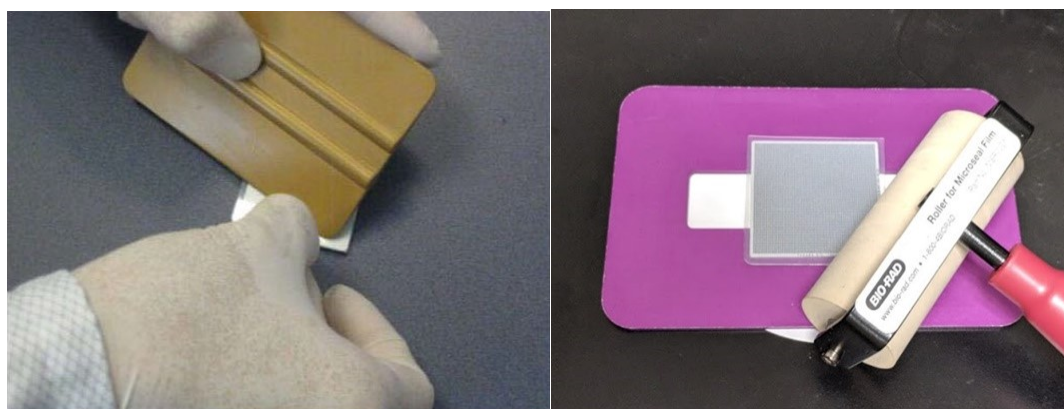

Figure 10. Sealing the blotted chip. Seal the blotted chip using (Left) a film applicator or (Right) a film sealing roller.
16. Seal the blotted chip with the film using a film applicator (Figure 10, below).
- d. At Step 13, remove the liner from only one side of the Optical Imaging film and apply the exposed sticky side of the imaging film to the chip, sealing carefully (similar to Figure 10, above).